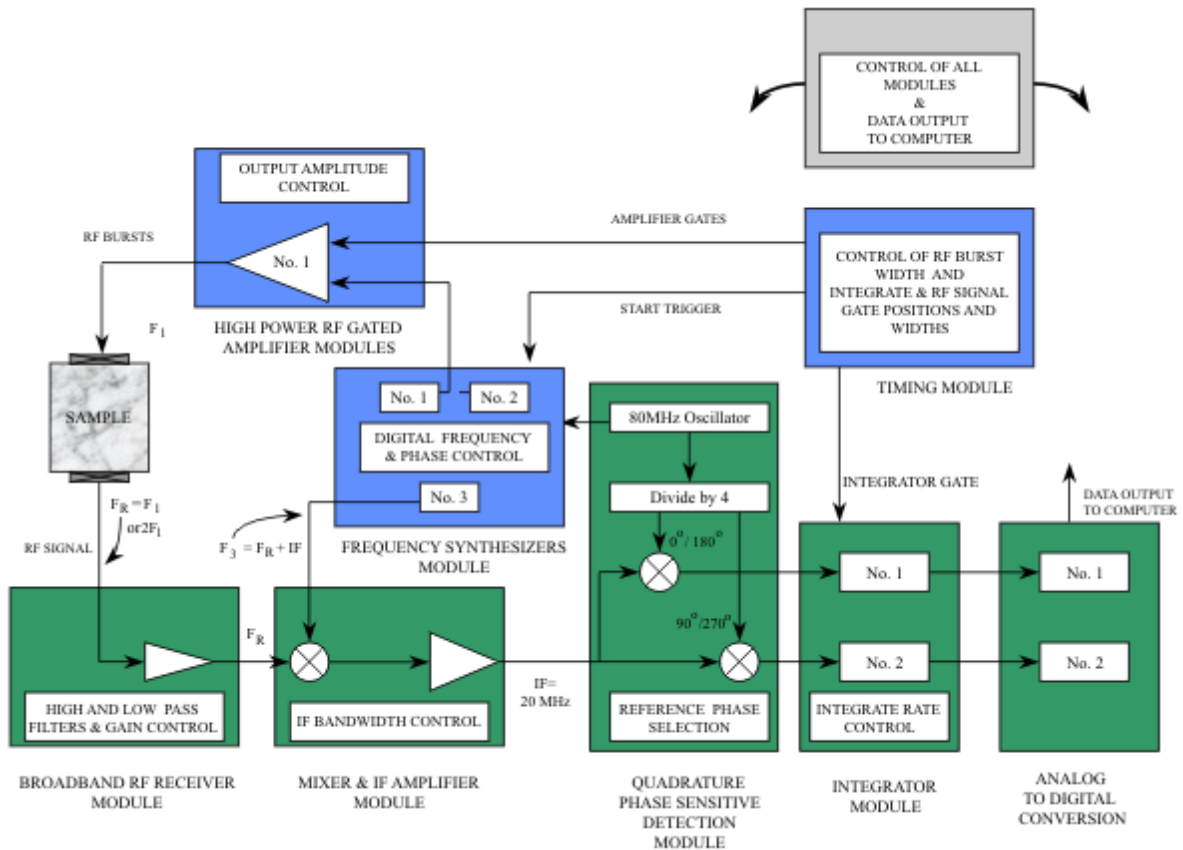

Figure 10-1. Block diagram of RAM system.
Figure 10-1 shows the block diagram of the instrumentation approach used in the RAM-5000-M6 system.
Equations 10-5, 10-6, and 10-7 describe the "quadrature phase-sensitive detection" process. The high-frequency terms are effectively removed by the integrators and low-pass filters (not shown in Figure 10-1) that follow the analog Multipliers. Only the low-frequency (base band) terms, involving the phase of the received signal, survive. This analysis has assumed that the local oscillator synthesizer (synthesizer 3) has been set to receive the proper frequency. If this is not the case, the phase detector outputs will contain terms containing the difference frequency between the tuning (LO) frequency and the actual received frequency.